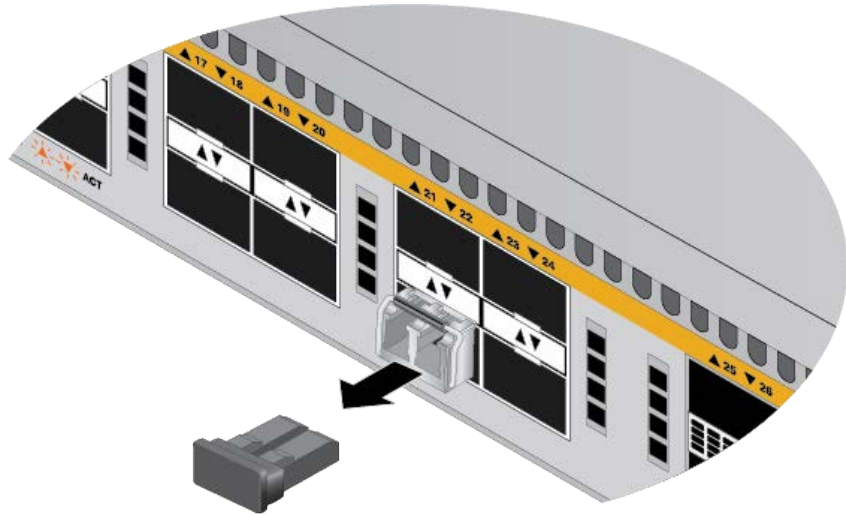

Figure 36. Removing the Dust Cover from an SFP28 or SFP+ Transceiver
4. Remove the dust cover from the transceiver. See Figure 36.